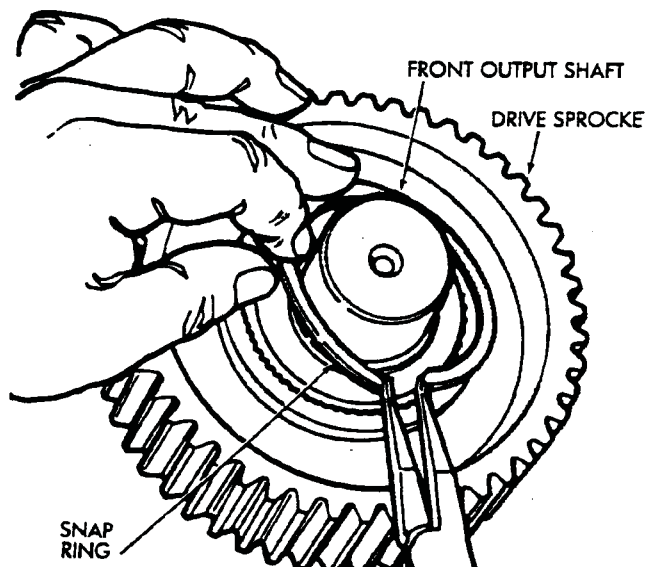

Fig. 4-57 Assemble Drive Sprocket And Front Output Shaft
54. Install drive sprocket on front output shaft. Secure sprocket with new snap ring (Fig. 4-57).